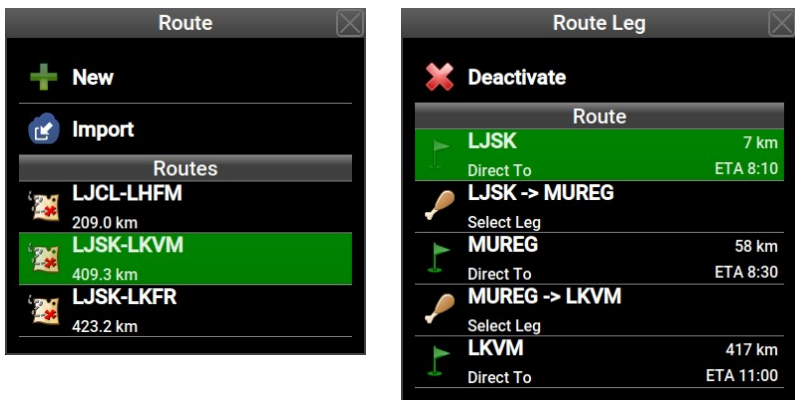

Figure 13: Route selection and activation window (left) and route manipulation window (right).
- When there is no active route, Aetos opens the route selection/activation window. See Figure 13 left. The window allows creation of a route, importing a route from USB stick or selection of one of existing routes from a list.
- However, if some route is already active, Aetos opens a route manipulation window. See Figure 13 right.
With no active route a window opens, like shown on Figure 13 left. Routes are sorted alphabetically. Route name is typically defined by a takeoff - landing airfield pair.
- Select the *New* option from Figure 13 left.
- Insert the stick into Aetos and select the *Import* command. See Figure 13 left.
When the *Route* command is issued and some route is already active, a different window appears. See Figure 13 right on page 29.